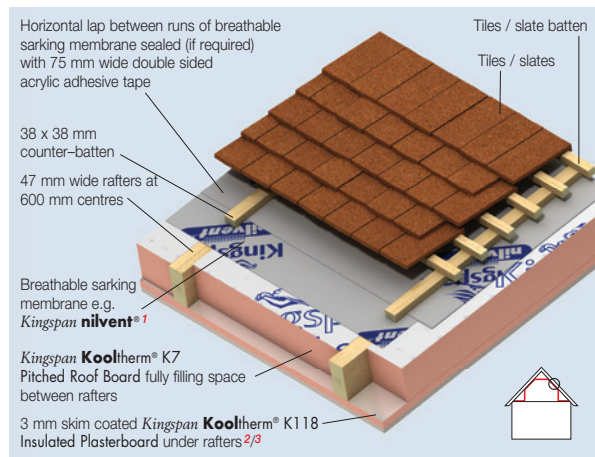

Figure 1a
*NB When calculating U-values to BS EN ISO 6946: 2017 / I.S. EN ISO 6946: 2007, the type of mechanical fixing used may change the thickness of insulation required. The effect of fixings for Kingspan Kooltherm® K118 Insulated Plasterboard in the U-value calculations for Figures 1a, 1b, 1c, 1d, 2a, 2b, 4a & 4c is insignificant as the insulation layer penetrated is not the main insulation layer. The U-value calculations for Figures 3a & 3b assume that over rafter layers of insulation are fixed using stainless steel fixings with a cross sectional area 7.45 mm2, with 3.7 fasteners per m2 (insulant thickness 0–40 mm), 6.2 per m2 (insulant thickness 41–60 mm), 8.3 per m2 (insulant thickness 61–80 mm) and 10.0 per m2 (insulant thickness 81–100 mm). The U-value calculations for Figures 3a & 3b also assume that over rafter layers of insulation are fixed using stainless steel fixings with a cross sectional area 9.1 mm2, with 11.1 fasteners per m2 (insulant thickness 101–125 mm). Please contact the Kingspan Insulation Technical Service Department (see rear cover) for project calculations.*
- 1 In Figures 1a & 3a the breathable sarking membrane can be placed over the counter-battens, draped to provide for drainage and overlain with tile / slate battens. This will yield a marginally better U-value but it will be more difficult to seal the breathable sarking membrane effectively.